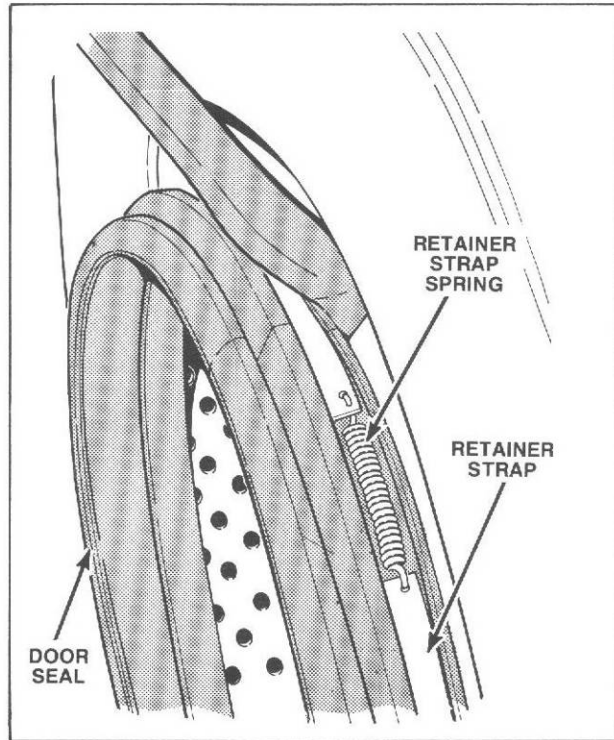

Figure 17
**16. DOOR SEAL** (Refer to Figure 17)